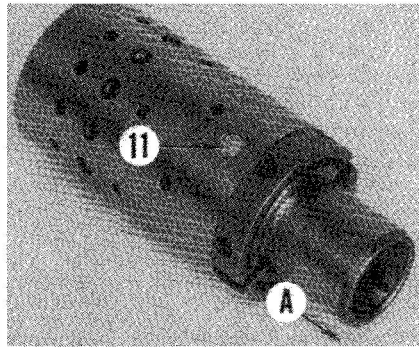
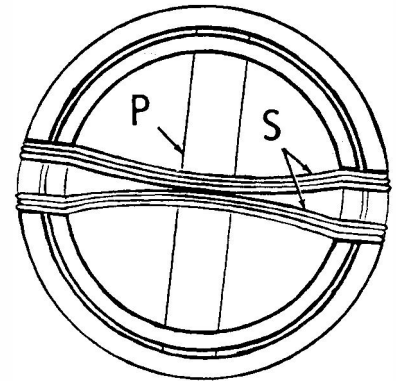
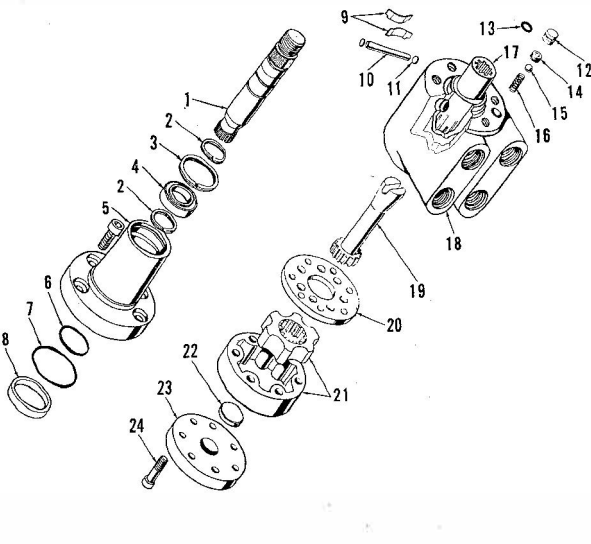
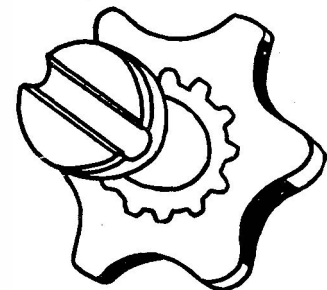

Fig. 25—View of control spool and sleeve assembly. Teflon discs (11) cover outer ends of internal pin. Withdraw spool from sleeve in direction of arrow (A).
Fig. 25A—Schematic end view of steering control sleeve and spool showing correct assembly of centering springs (S) and drive pin (P).
Fig. 24—Exploded view of Char-Lynn Orbital hydrostatic steering hand pump used on MF235 and MF245 Orchard models.
Fig. 26—When properly assembled, slot in end of drive link must align with valley of inner gear as shown to provide correct valve timing.
spool (17—Fig. 24) and housing (18) are available as a matched set only.
To disassemble the removed unit, first remove cap screws (24) and withdraw end plate (23), gear set (21), spacer (20) and drive link (19) as a unit. Unbolt and remove upper housing (5) and input shaft (1) as a unit. Withdraw the control spool and sleeve (17) as a unit from bottom end of housing. Remove Teflon discs (11), then push pin (10) and centering springs (9) out of sleeve. Carefully slide spool (splined end first) from sleeve (Fig. 25). Insert a bent wire through port in valve body and push plug (12—Fig. 24) from body, then remove check valve seat (14) using an Allen wrench. Remove check ball (15) and spring (16).
When assembling the unit, tighten check valve seat (14) to a torque of 17 N·m (150 in.-lbs.). Assemble spool in sleeve making sure spool rotates smoothly in sleeve. Align spring slots in spool and sleeve, then insert centering springs (two sets of three each) so arched center sections are together as shown in Fig. 25A. Insert pin (10—Fig. 24) into spool and sleeve assembly and install a Teflon disc (11) at each end of pin.
Be sure pin slot in drive shaft (Fig. 26) is aligned with a valley of inner rotor to ensure correct timing of control sleeve. If drive slot is improperly aligned, steering unit will operate in reverse or "kick back" when hydraulic pressure is applied. Assemble drive link (19—Fig. 24), spacer (20), gear set (21) and spacer (22) onto valve body. Note that spacer (22) should be flush with outer surface of gears if drive link is properly engaged with control spool pin. Install end cover (23) and tighten retaining cap screws evenly to 17 N·m (150 in.-lbs.) torque.